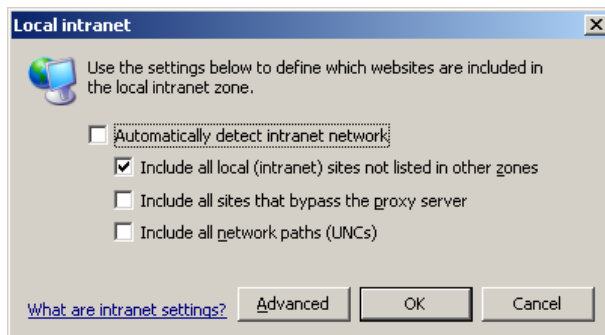

Figure 14. Local Intranet Dialog Box
12. Click **Sites** to open the Local Intranet dialog box (Figure 14).
8. Click **Sites** to open the Local Intranet dialog box (Figure 14).